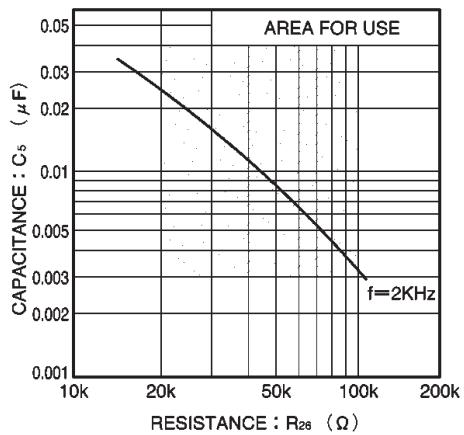

Fig. 7 Value of external components for oscillator ( $V_{cc} = 5.0V$ )
3) The external resistor  $R_{26}$  connected to the oscillator (pin 30) should be in the range of 20k $\Omega$  and 100k $\Omega$ . If it is outside this range, oscillation may stop due to the influence of temperature (see Fig. 7).